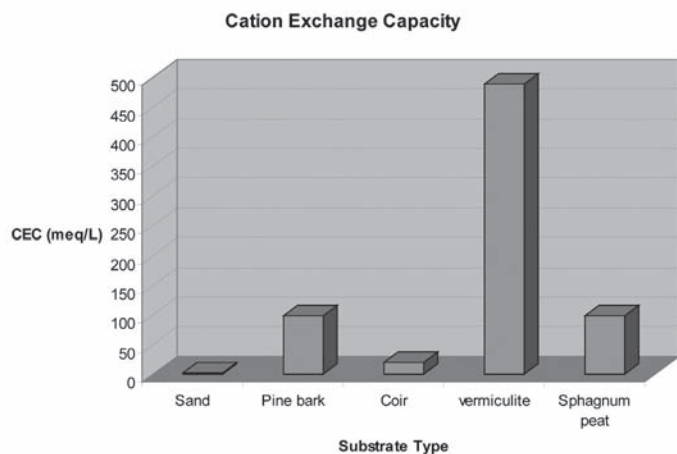

Figure 1. Cation Exchange Capacity (CEC) of different substrates.
1. *Cation Exchange Capacity (CEC) is the ability of a substrate/soil particle to adsorb positively-charged elements and compounds.* Such as calcium (Ca^{+2}), magnesium (Mg^{+2}), ammonium (NH_4^+), potassium (K^+), iron ($\text{Fe}^{+2,+3}$), zinc (Zn^{+2}), manganese (Mn^{+2}), and copper (Cu^{+2}), onto the negatively-charged outside surfaces of the substrate/soil particles. This is similar to iron filings attaching to the outside of a magnet. The CEC of some common substrates is presented in Figure 1.
3. *Soluble Salts (Electrical Conductivity-EC) is the amount of soluble fertilizer salts and organic salts in the media and water.* It is called "electrical conductivity" (EC) because the concentration of dissolved salts in the water is directly related to the ability of the water to transfer or conduct an electrical current. Common units for EC are decisiemens per meter (dS/m), millisiemens per centimeter (mS/cm), or millimhos per centimeter (mhos/cm). $1 \text{ dS/m} = 1 \text{ mS/cm} = 1 \text{ mhos/cm}$. Usually, city water supplies have EC around 0.5 dS/m. Many cut flower crops have a water EC tolerance below 2.0 dS/m while many woody ornamentals may have a tolerance of 3.0 dS/m or greater for optimum plant performance. However, there is a broad range of tolerance among crops. In addition, the seedling stage of many plant types is more sensitive to